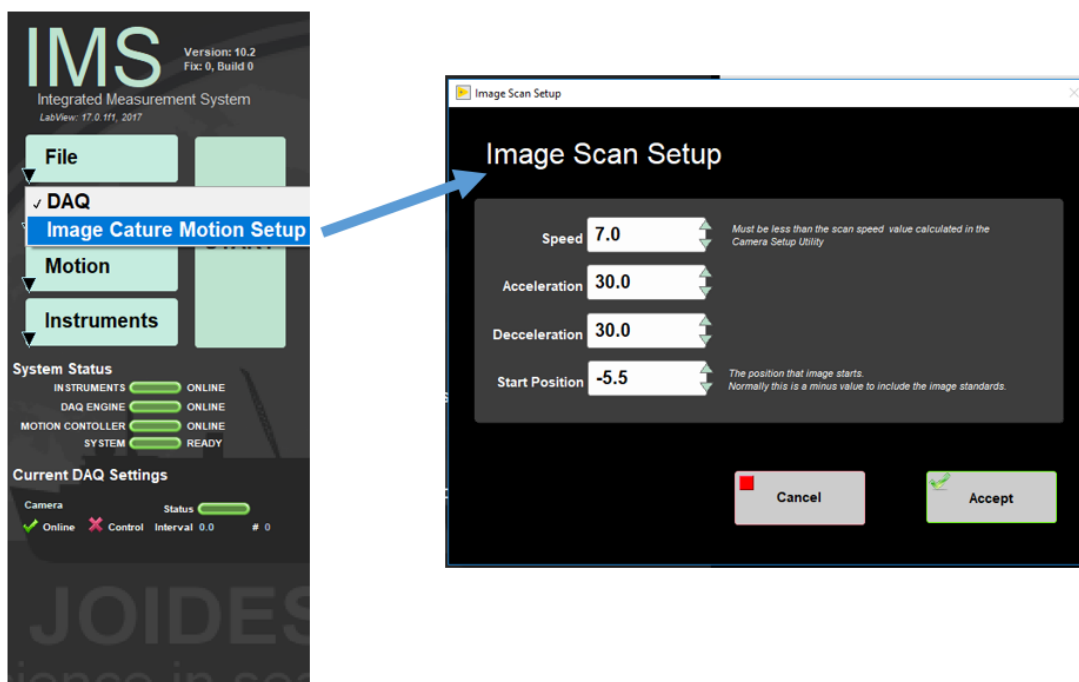

Figure 41. Select Image Scan Setup window
1. Go to **DAQ > Image Capture Motion Setup** (Figure 41).